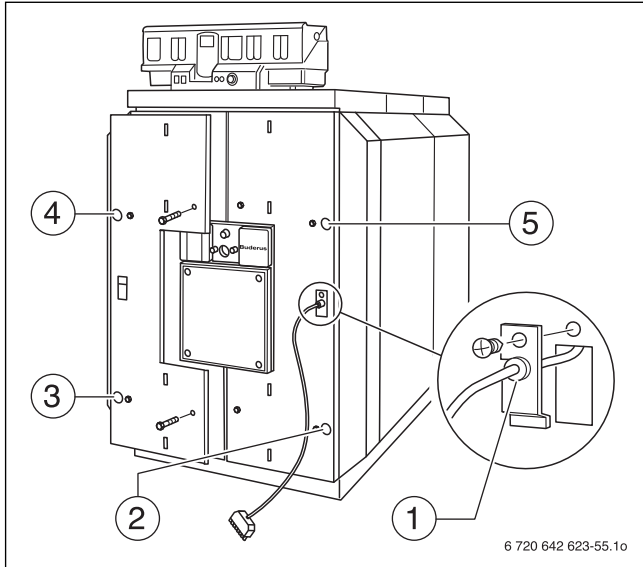

Fig. 57 Installing the burner door cladding
- ▶ Snap burner cable with strain relief into cable entry (→ Fig. 57, [1]).
- ▶ Fit the burner door cladding on the burner door from the front and screw on with four machine screws (→ Fig. 57, [2 to 5]).